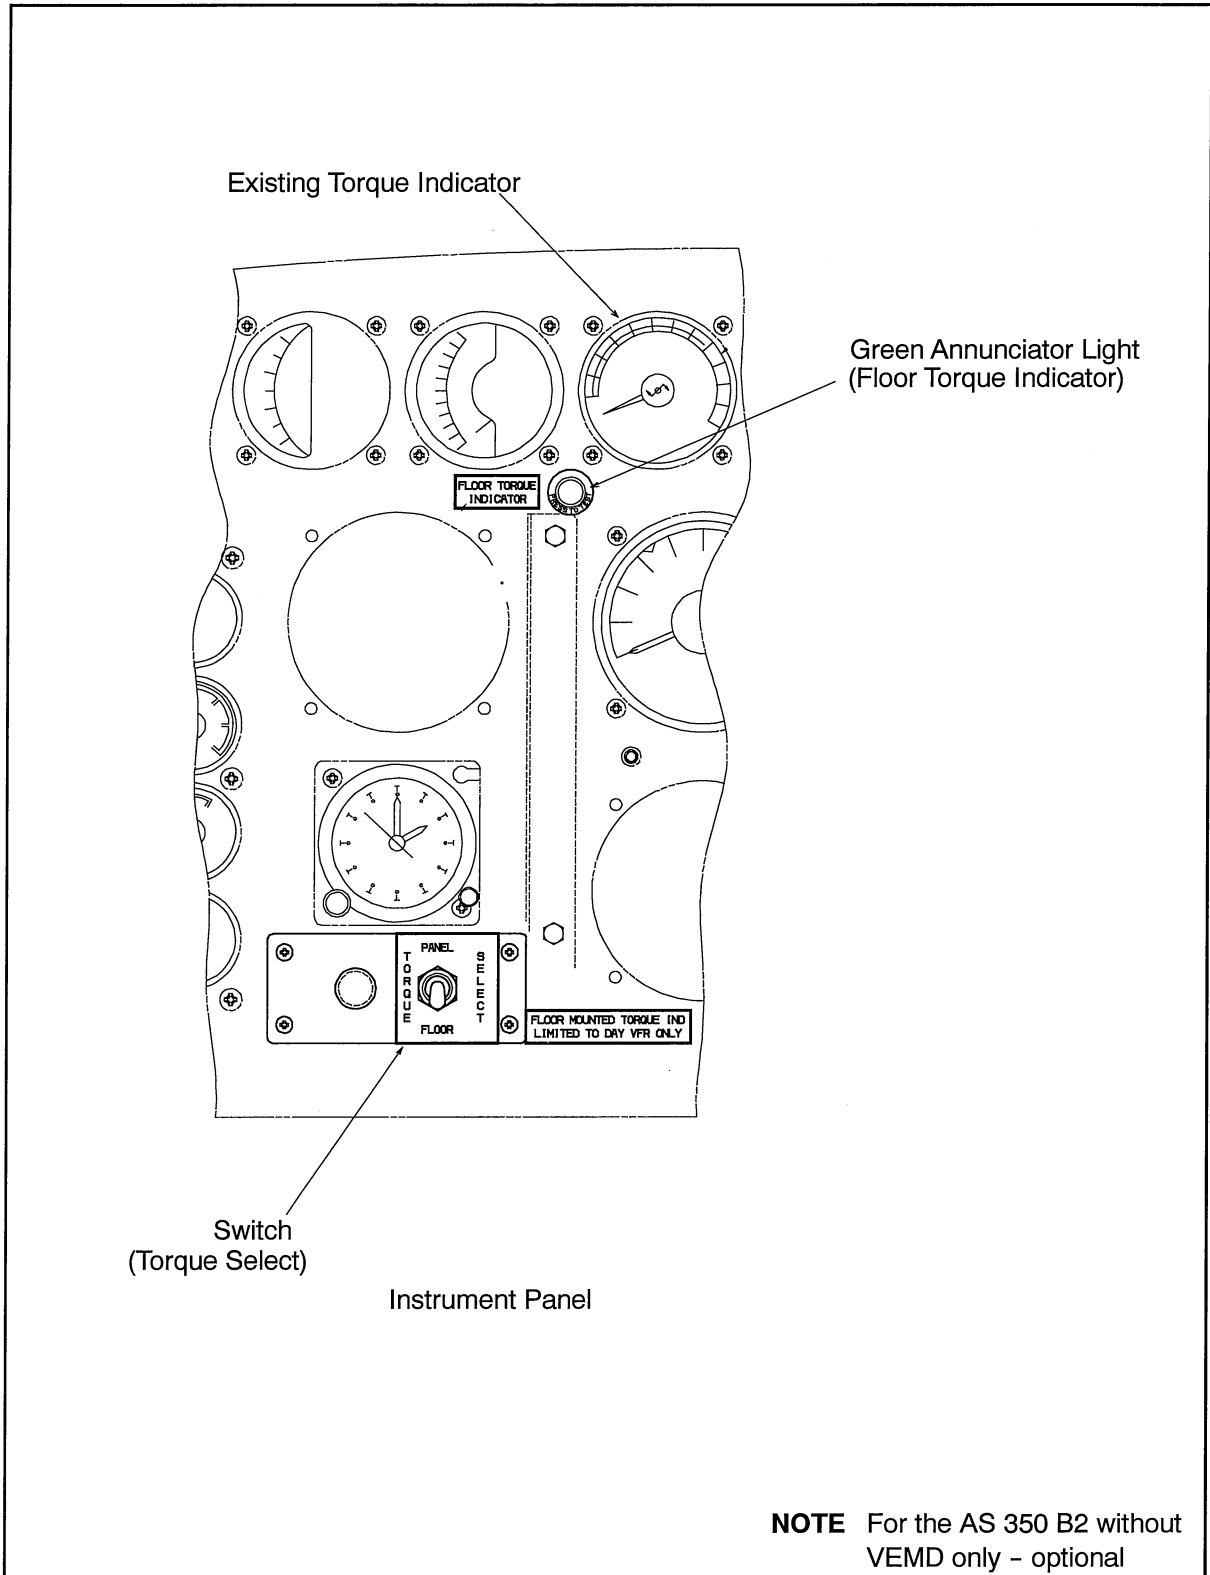

Figure 2 Switch and Annunciator locations for Torque Indicator Option
Location: Located adjacent to the torque select switch on the Instrument Panel in clear view of pilot. Refer to Figure 2.
Location: Located adjacent to the torque select switch on the Instrument Panel in clear view of pilot. Refer to Figures 2 or 3.
Location: Located adjacent to annunciator light on the Instrument Panel in clear view of pilot. Refer to Figures 2 or 3.
TORQUE SELECT Switch (Toggle switch on instrument panel)	: Select PANEL (Refer to Figures 2 or 3)
FLOOR TORQUE INDICATOR "press to test" green LED annunciator light (on instrument panel)	: LIGHT ON (Refer to Figures 2 or 3)
- 1) Floor Mounted Torque Indicator (if installed, refer to Figure 2)